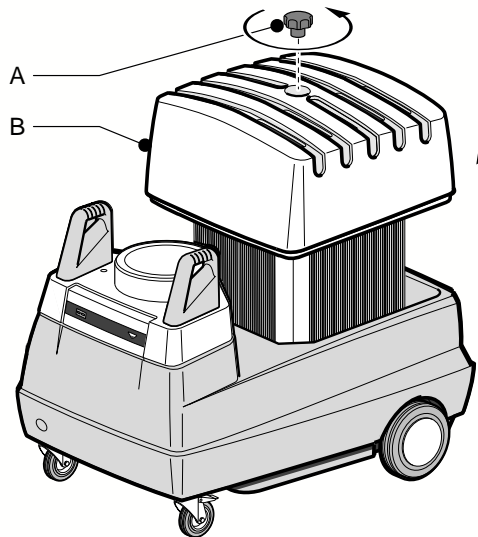

Fig. 16
2. Unscrew the thumb nut (Fig. 16, Item A) and remove the filter cover (Fig. 16, Item B).